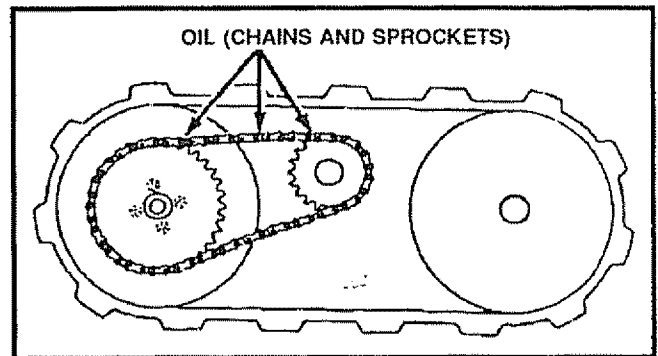

FIG. 14
- Chains and Sprockets - Oil chains and sprockets (See Fig. 14) with 10W-30 oil (or equivalent) after 10 hours use and at the end of each season.